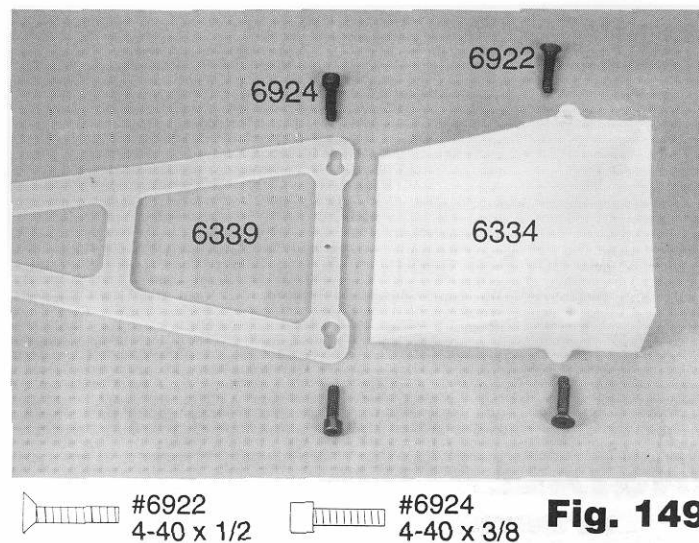
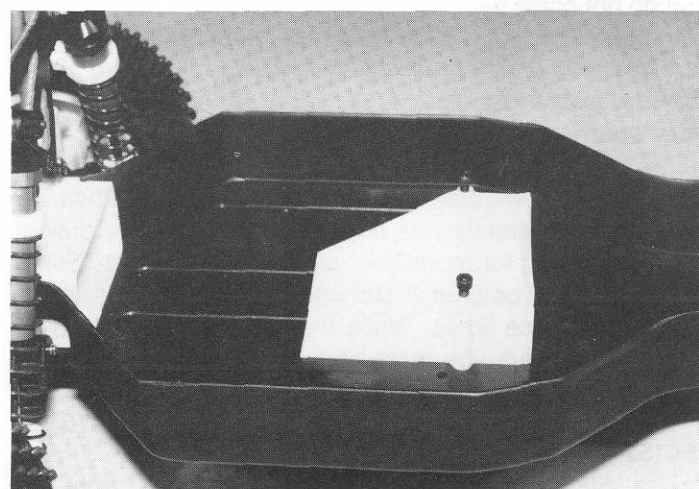
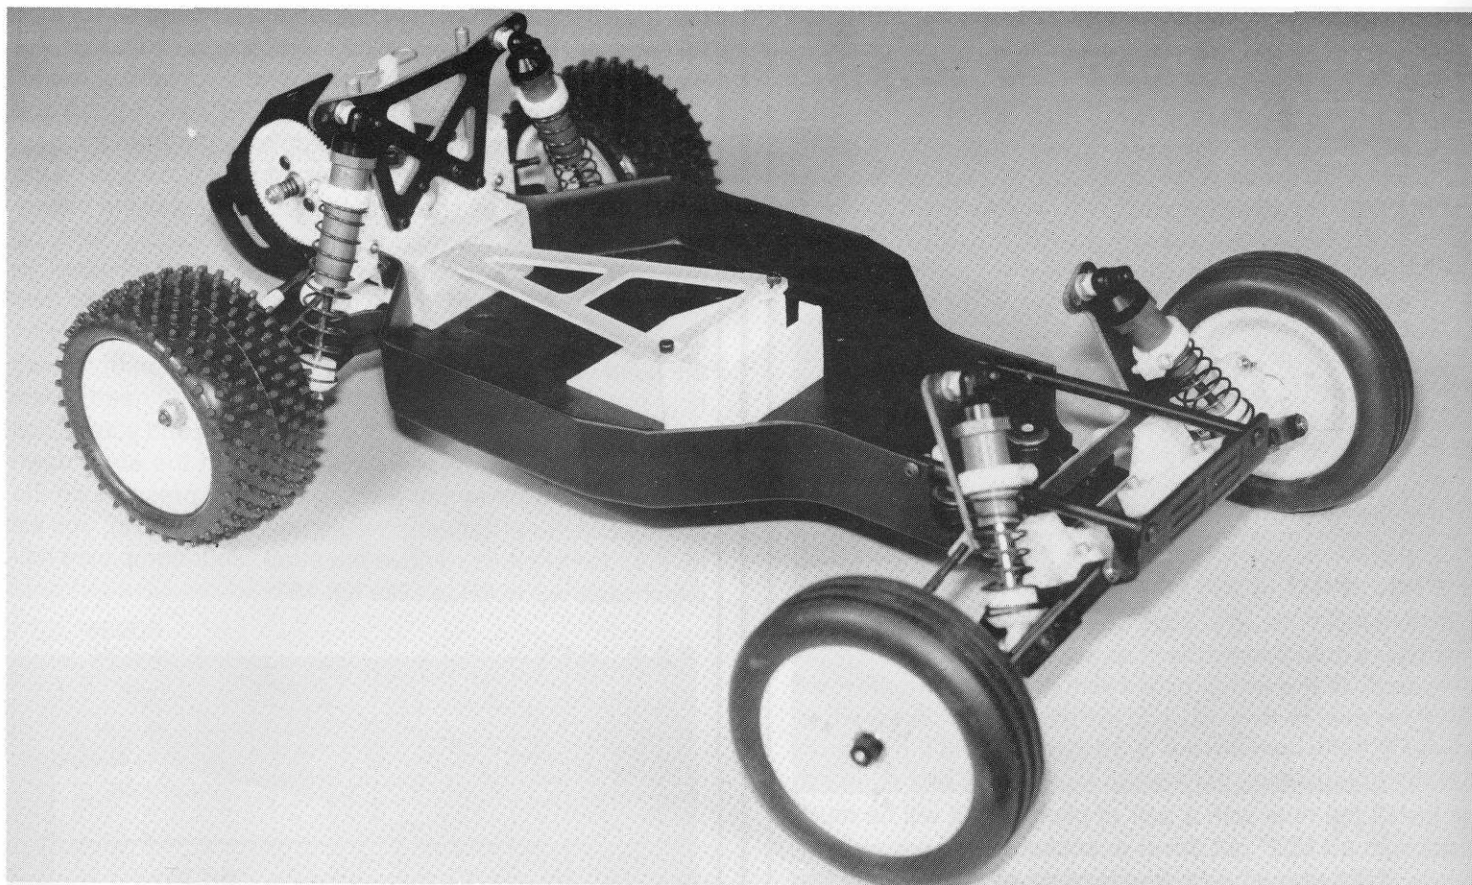

Fig. 149
Fig. 150
Fig. 151
□ **Figs. 149, 150 & 151** In bag #6-7 you will find the #6334 nylon battery cup and two #6922 4-40 x 1/2" FHSScrews. Use the two #6922 FHSScrews to fasten the battery cup to the chassis as in fig. 150.
Now get the two #6924 4-40 x 3/8" SHCScrews and the #6339 fiberglass battery hold-down strap from the bag. Thread the two #6924 SHCScrews into the two holes on top of the battery cup as shown in fig. 150. To install the battery strap (after you have installed the battery pack), slide the rear end of the strap into the battery slot in the rear bulkhead. On the opposite end of the strap, place one side over the screw of the battery cup. Slide the strap to the side so the head of the screw is over the smaller section of the key hole slot. While holding this end tight, you will need to flex the other side of the battery cup until the second screw lines up with its hole in the battery strap. Push the strap down over the screw head and then release the pressure on the battery cup. Your batteries would now be locked in; you just reverse the steps to remove the strap. Your completed rolling chassis will now look like fig. 151.